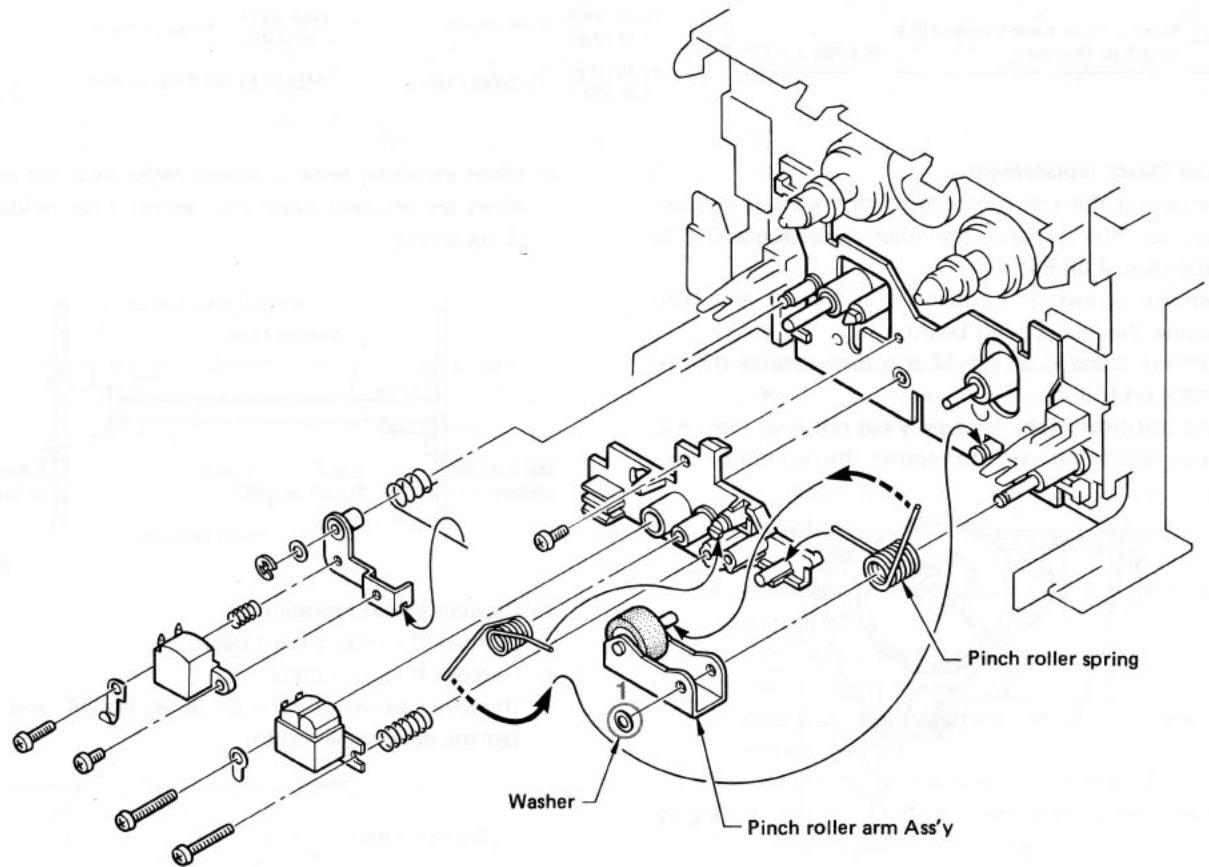

Fig. 10
- Remove the washer ① in fig. 10 and then replace the pinch roller arm assembly.
- \* Refer to fig. 10 as to the position of pinch roller spring.